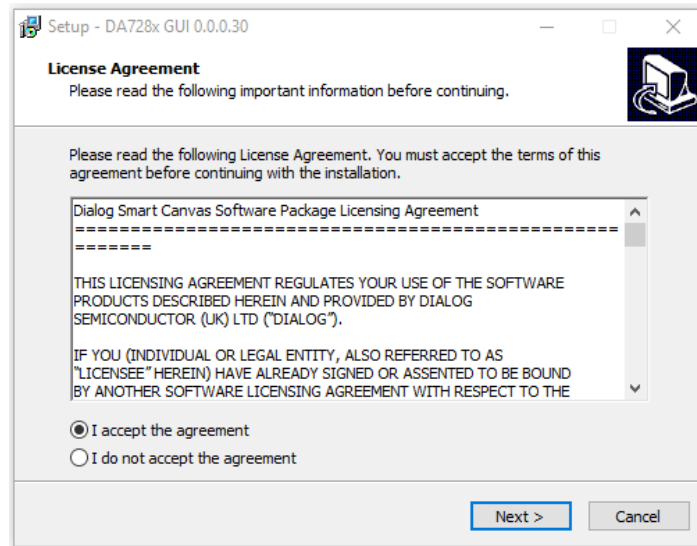

Figure 13. License agreement
2. Click the **I accept the agreement** option and then click **Next** (Figure 13).